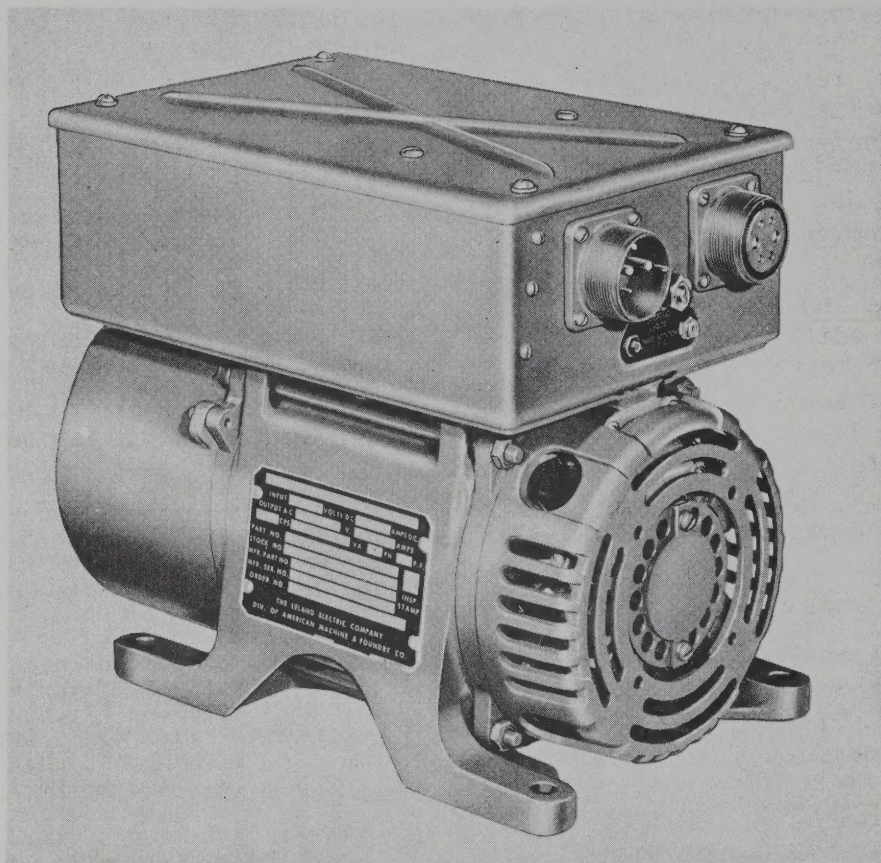

Figure 1-1. Motor-Generator PU-572/A.
1-2. SCOPE. This manual describes Motor-Generator PU-572/A (inverter) (fig. 1-1), and provides information on direct support (DS), general support (GS), and depot maintenance, which includes troubleshooting, testing, repairing the equipment, and replacing maintenance parts. It also lists the tools and test equipment required for each category of maintenance. The appendixes include references, the basic issue items list, and the maintenance allocation chart.